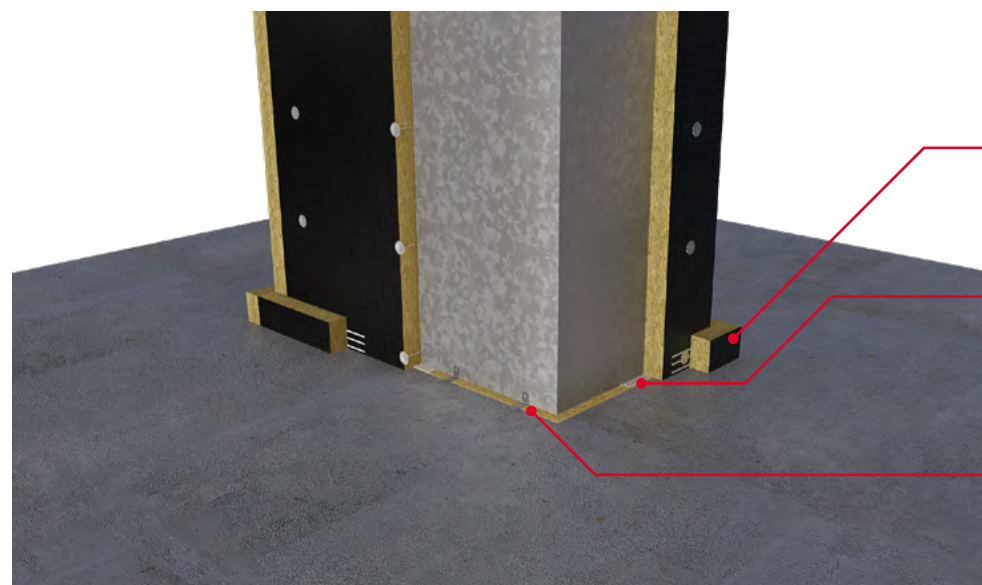

Figure 11a
1. Maintain a 30mm gap between the ductwork and floor structure. Fill the gap between the duct and the floor structure with a ROCKWOOL Slab e.g. ROCKWOOL RWA45 as shown in Figure 11a. The flexible slab can be sealed within the void using FIREPRO® Glue.
3. Apply a DuctRock® collar to the perimeter of the aperture and on both sides as shown in Figure 11a. The collars can be fixed using FIREPRO® Glue and temporarily held in place with nails until the glue cures.